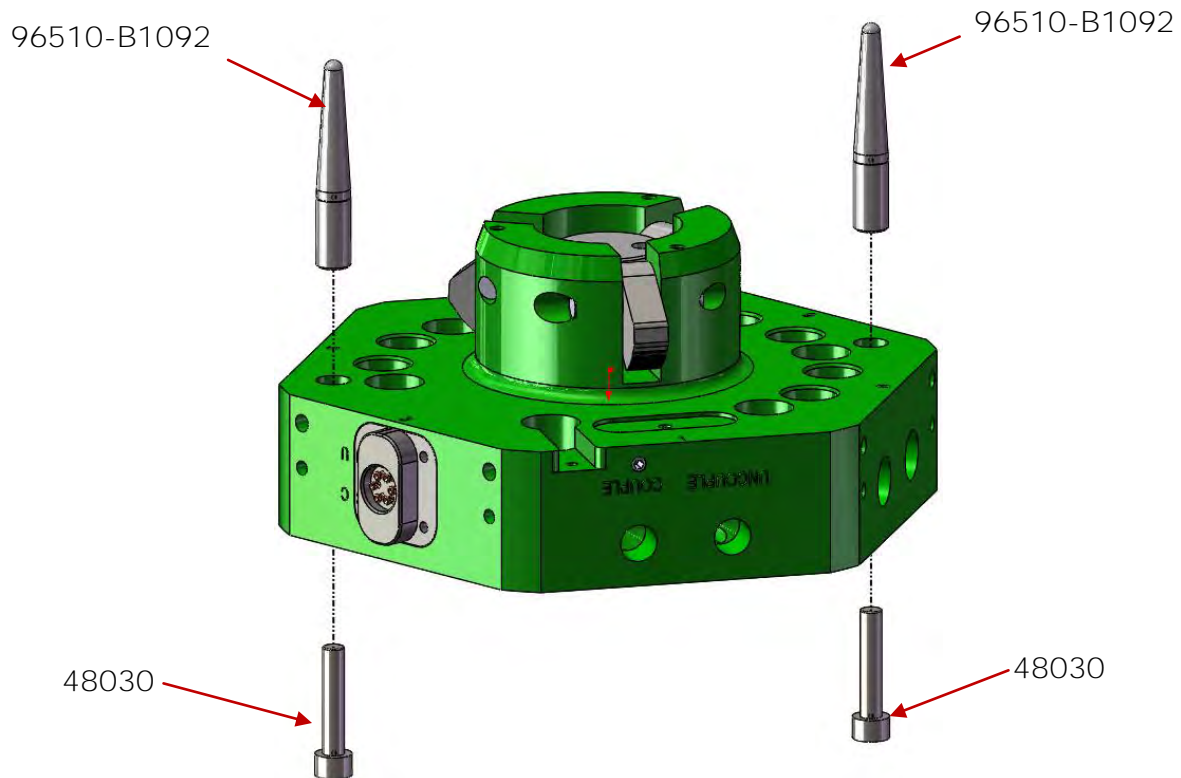

Figure 10.1.1-1. Locating/Alignment Pin Replacement
4. Place new Locating Pin into the appropriate mounting hole (Figure 10.1.1-1).